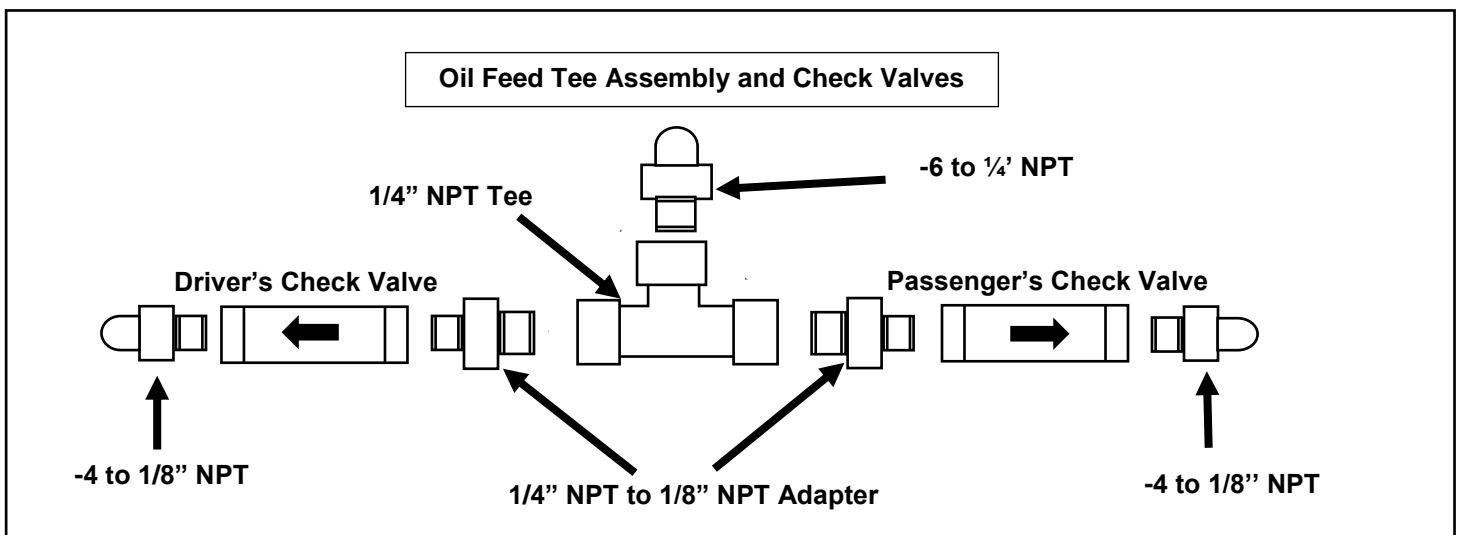

Figure 51
4. Install a 1/8"NPT to -4 AN fitting into each check valve outlet – *The ARROW ➡ on the check valve should be pointing towards this fitting (**see Figure 51 next page**).